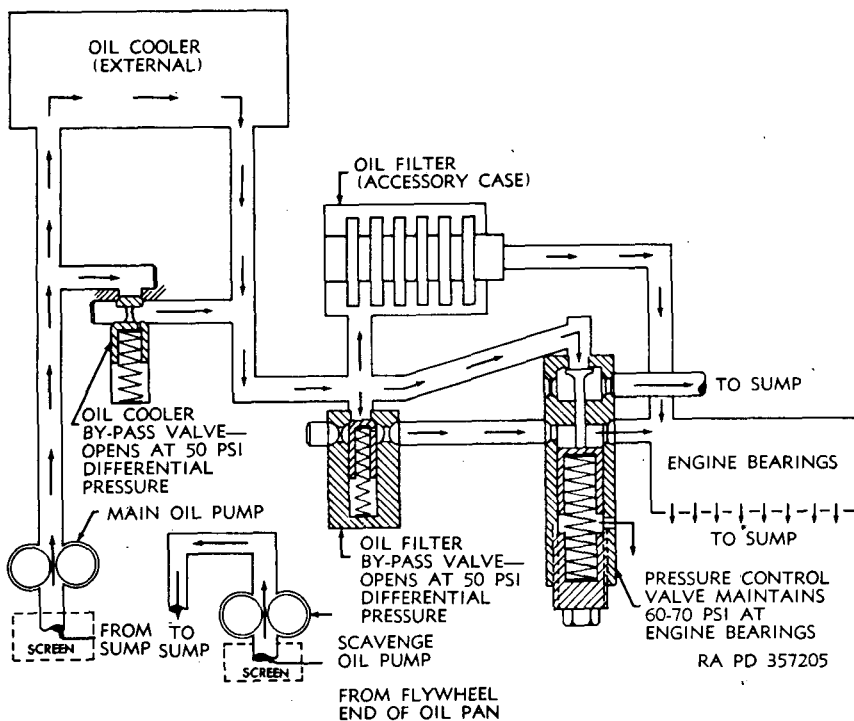

Figure 99. Oil flow diagram.
a. DESCRIPTION (fig. 99).
- (1) Two positive displacement-gear-type oil pumps, scavenge and main, are inclosed in a single housing mounted to a machined mounting pad on the lower side of the accessory case. An inlet to the oil cooler is located on the discharge side of the main oil pump. Oil from the main oil pump is circulated externally to the oil coolers. It reenters the accessory case from the oil coolers. Adapters are provided for the external oil connections. During normal operation, oil passes from the main oil pump through the engine and transmission oil coolers and returns to the engine through the engine oil filter. Three valves, the oil cooler bypass valve, the oil pressure control valve, and the oil filter bypass valve control the flow of oil. Oil from the pressure inlet flows to the oil filter chamber through drilled passages in the accessory case.